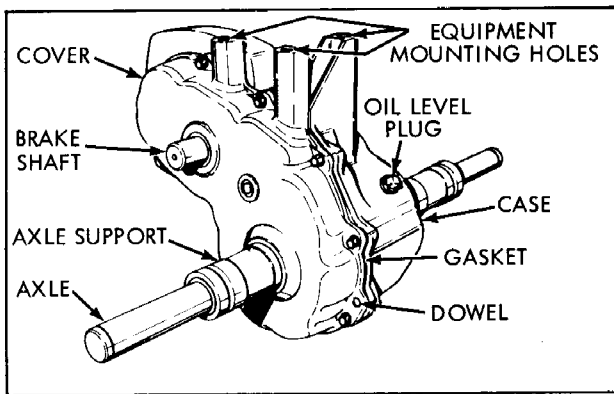

Figure 2-4
1. When installing axle support, be sure case and cover alignment is true with the press. Press supports in until flanged surfaces contact case and cover. (Figure 2-4).